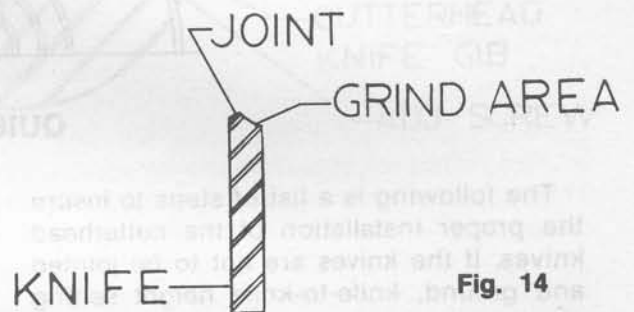

Fig. 14
2. **Always joint knives before grinding.** The jointing operation actually sharpens the knives. Grinding is used to reduce the joint (fig. 14) to a narrow width to minimize pounding and to produce a consistent joint over the length of the knife. Grinding first to a wire edge will result in that edge being turned over in jointing leaving a dull knife.